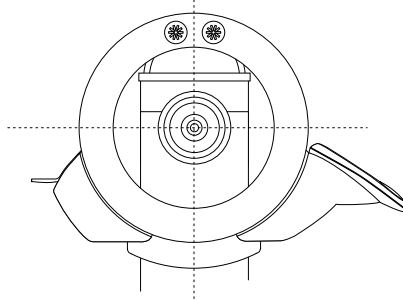

Fig 5.6 - Pilot should be central to wheel shaft
7. Fit the Wheelpilot to the pedestal mount by inserting the two guide rods into the slots on the pedestal mount. Check that the Wheelpilot ring is centred on the wheel shaft (Fig 5.6) -